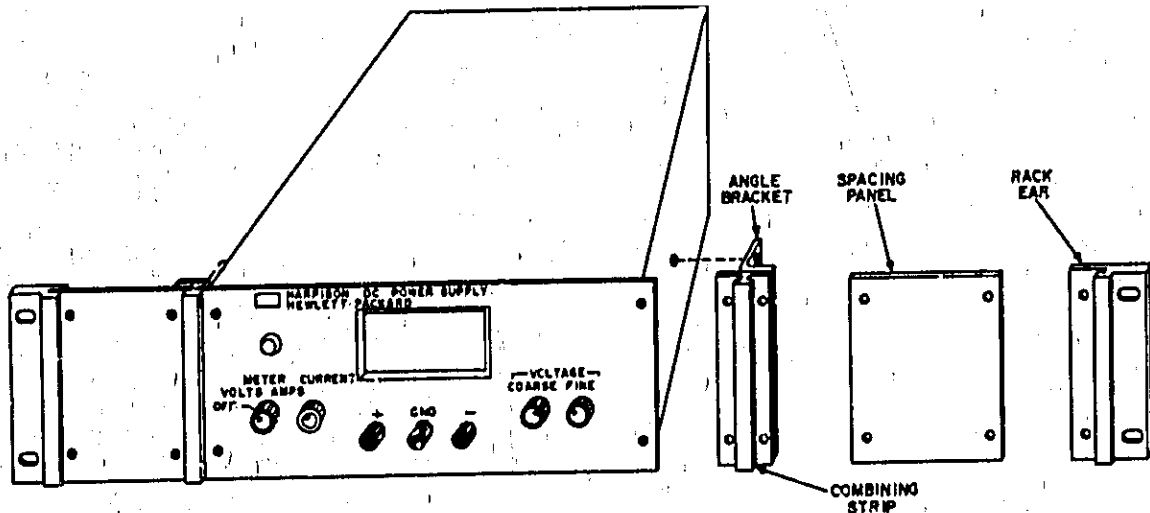

Figure 2-2. Rack Mounting, One Unit.
- a. Bolt rack mounting ears, combining straps, and angle brackets to each side of center spacing panels. Angle brackets are placed behind combining straps as shown in Figure 2-2.